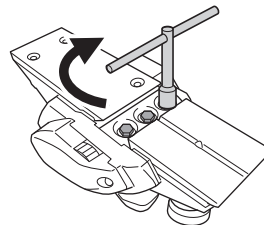

Fig. 12
- (3) As shown in **Fig. 12**, fix the bolts at the blade holder after blade replacement has been completed.
- (4) Turn the cutter block over, and set the other side in the same manner.